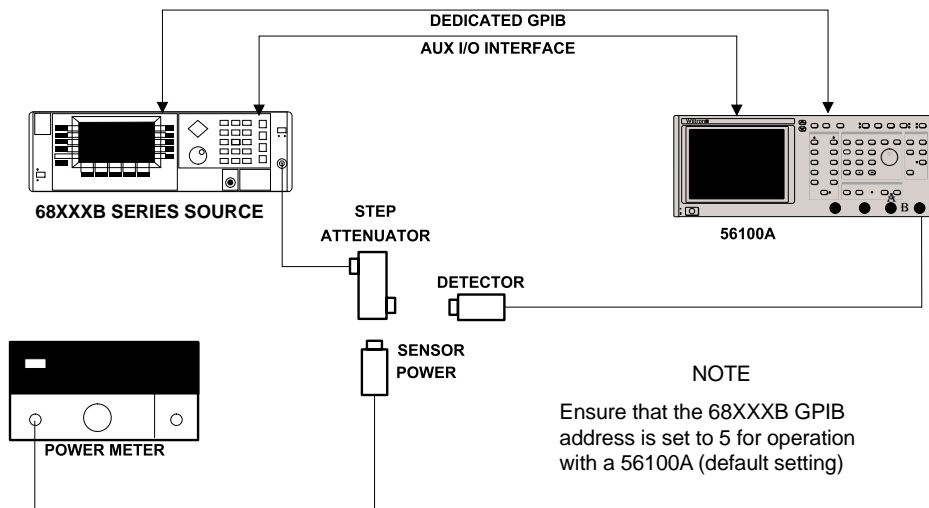

Figure 2-2. Test Equipment Setup, RF Method
- Step 1.** Set up the test equipment as shown in Figure 2-2.
The power measurement method using the recommended test equipment listed in Table 1-1 (Chapter 1) and shown in Figure 2-2 contains inherent measurement uncertainties. These uncertainties are explained in the following paragraphs.